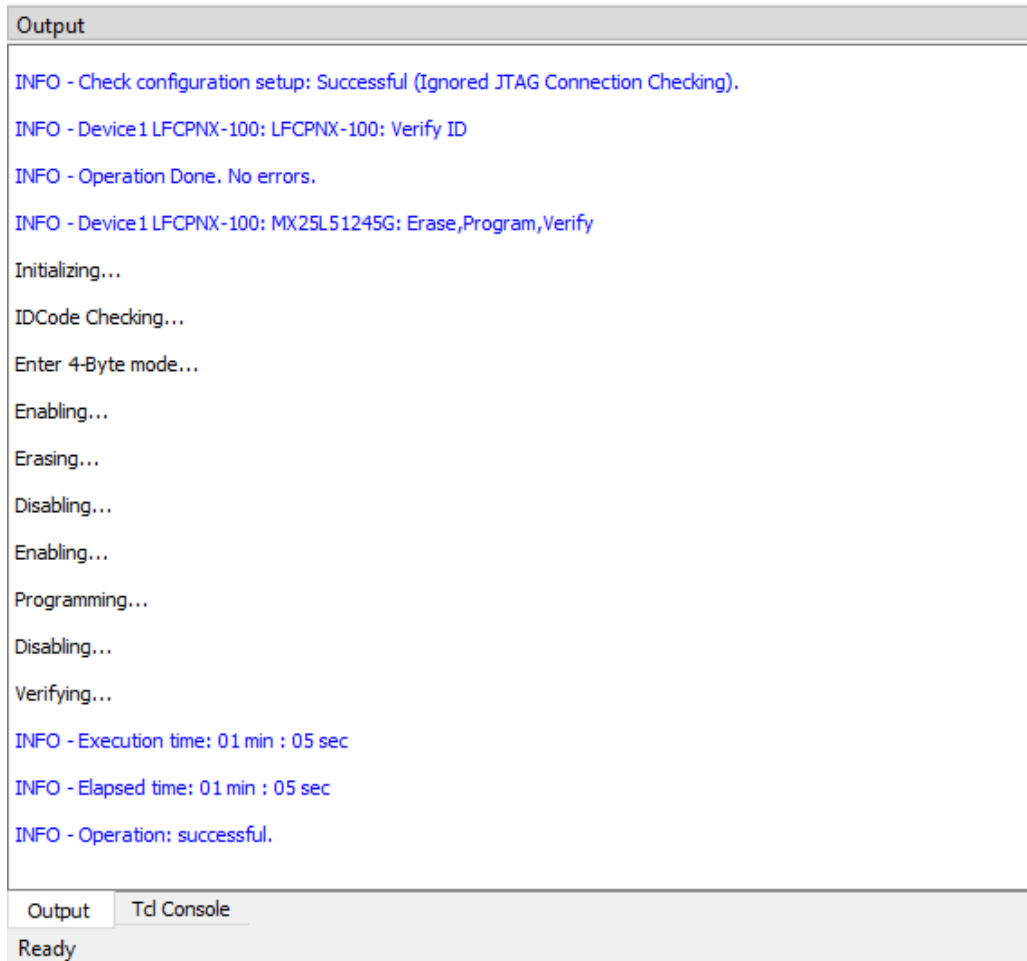

Figure 4.4. Programmer Output Window
11. Check the programming status and result from the output pane, as shown in Figure 4.4.